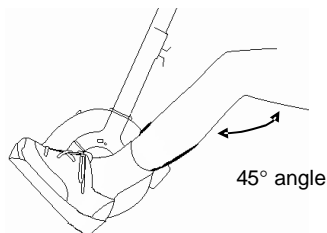

Figure 27: Knee joint at 45° angle
2. Move your wheelchair slowly back or forward until your knee joint reaches a 45° angle, as shown in Figure 27.